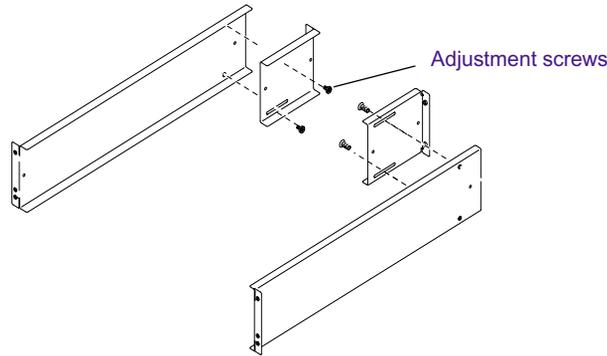

Figure 44 Connecting Rails
3. Make two complete support rails by connecting the rails using four pan-head screws as shown in Figure 44.